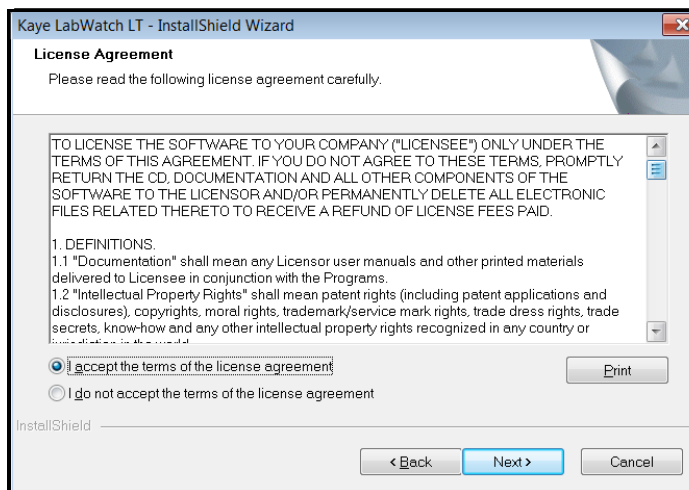

Figure 16: License Agreement
4. Accept the license agreement in Figure 16 below to proceed with the installation of Kaye LabWatch LT. Click **Next**.